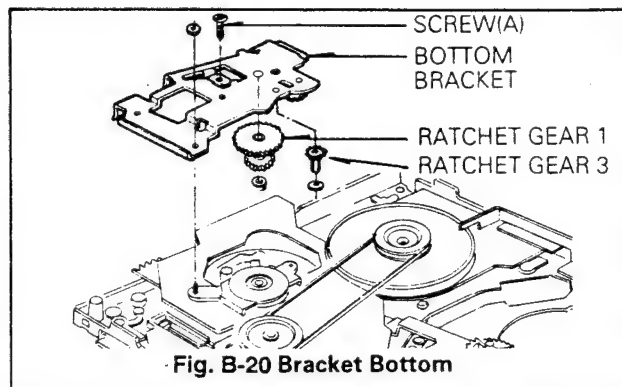

Fig. B-20 Bracket Bottom
20. Bracket Bottom Assembly(Fig. B-20)